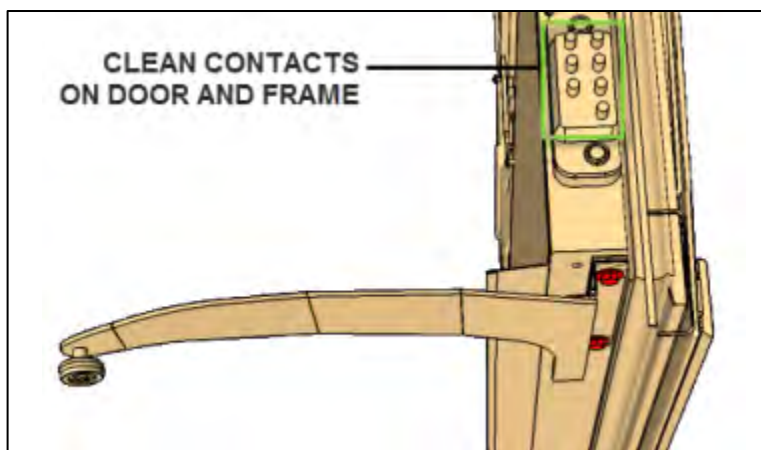

Figure 38
54. Clean with contact cleaner. (Figure 38)
55. Locate the door lower arm mounting screws. (Figure 38)